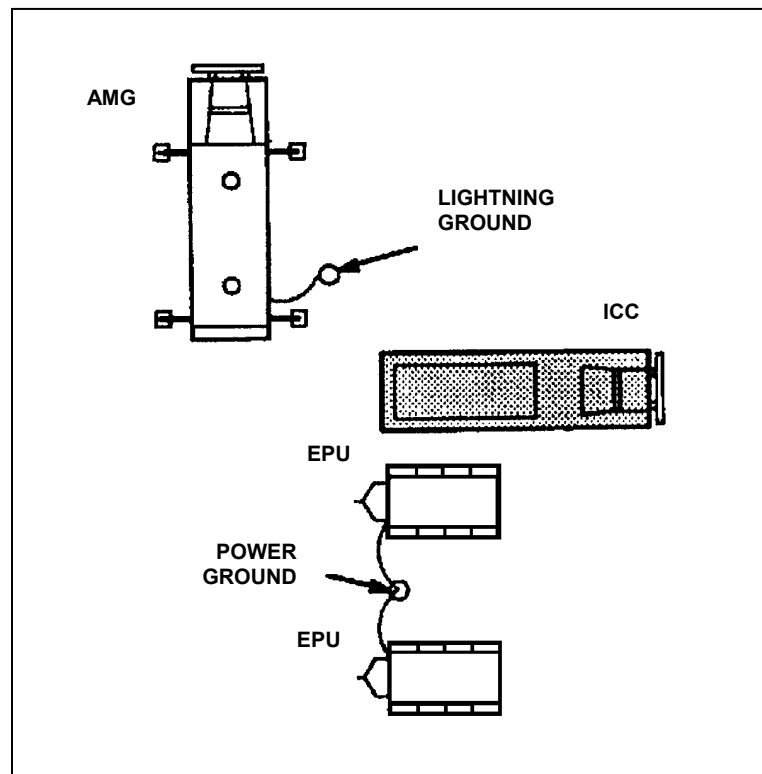

Figure 2-1. Emplaced ICC with EPUs and AMG
ILLUSTRATIONS: Figures 2-1 through 2-2.
(1) Using a diagram (Figures 2-1 and 2-2), a sand table, or a simple sketch in the dirt, show the crew members how the ICC and EPU should be emplaced.
(2) Tell crew members what their duties are in the drill.
(3) Read the performance measures of the drill to the crew members.
(4) Have each crew member explain their performance measures to ensure that they understand them.